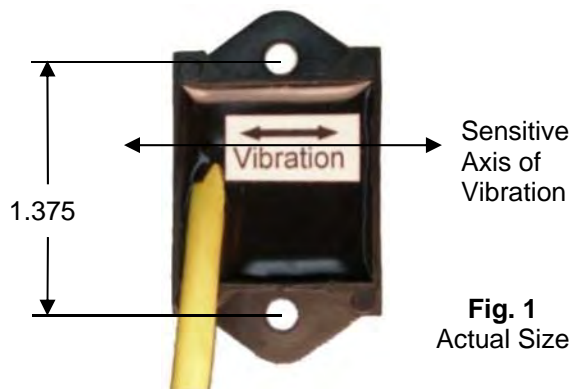
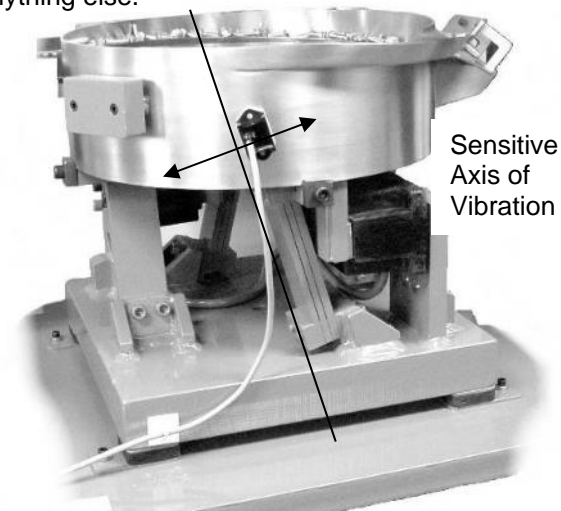

Fig. 1
Fig. 2 The arrow shows the direction of vibration which is at a right angle to the spring pack.
A. ORIENT THE SENSOR so that its sensitive axis is in the same direction as the vibration of the feeder. The arrow in figure 1 shows the sensor's sensitive axis. Align the sensitive axis of the sensor in the same direction as the vibration (see figure 2). The sensor must be oriented correctly for proper operation.
6) Remove the vibration sensor from its protective packaging. Remove the liner from the adhesive backing. Avoid touching the tape. Align the sensor as shown in figures 1 and 2. Apply the vibration sensor to the prepared area of the feeder. Press the sensor very firmly onto the feeder surface for at least 10 seconds.
Use a cable tie and an adhesive-backed mount to attach the sensor cable to the side of the drive base. See Figure 2. Clean the mounting area before applying the adhesive-backed mount.